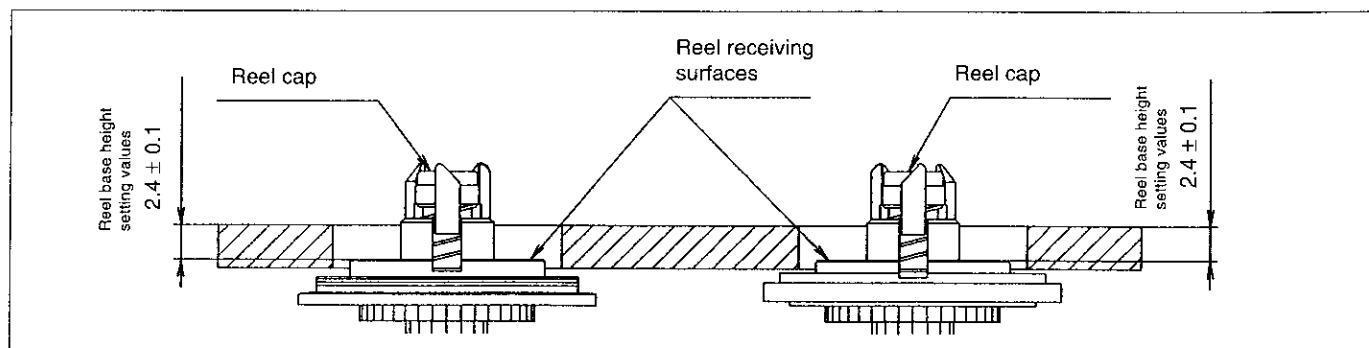

Fig. 4.
- (4) Confirm that the heights of the S reel base reel receiving surface and the Tu reel base reel receiving surface below the master plane top surface are within the set values, using, for example, a slide calliper (Fig. 4).
- (5) If these heights are not within the set values, turn the reel cap with a height adjustment screwdriver to adjust until they are within the set values.